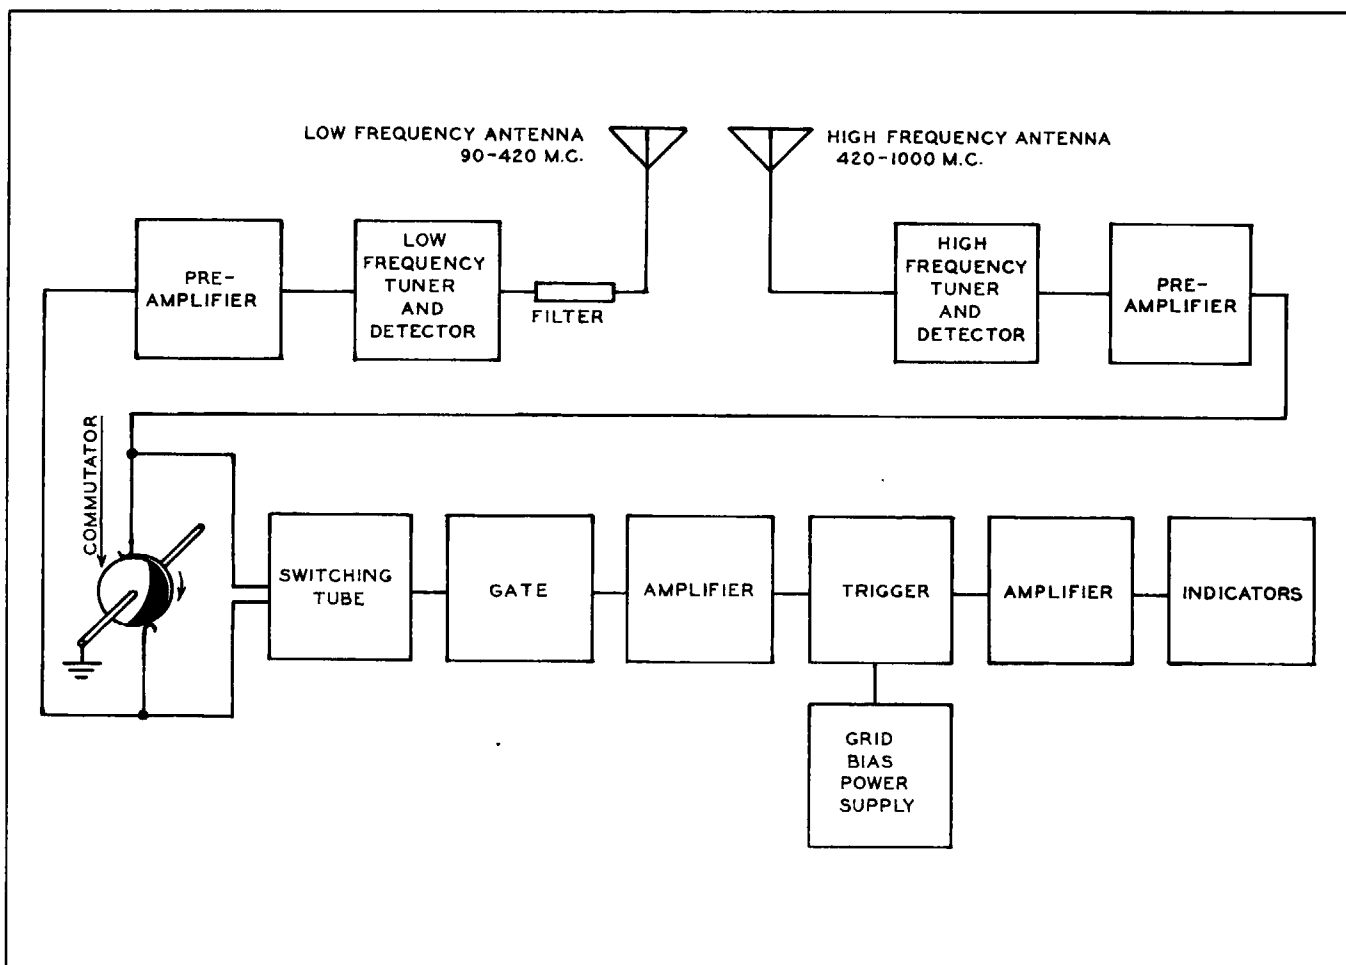

Figure 4-1. Radar Receiving Equipment AN/APR-2—Block Diagram
(1) Radar Receiving Equipment AN/APR-2 consists of a special radar receiver used with two antennas. A headset may be used but is not necessary.
(2) The functioning of the equipment is indicated in the block diagram shown in figure 4-1.
(3) Two signal channels are provided which are identical except for the frequency coverage.